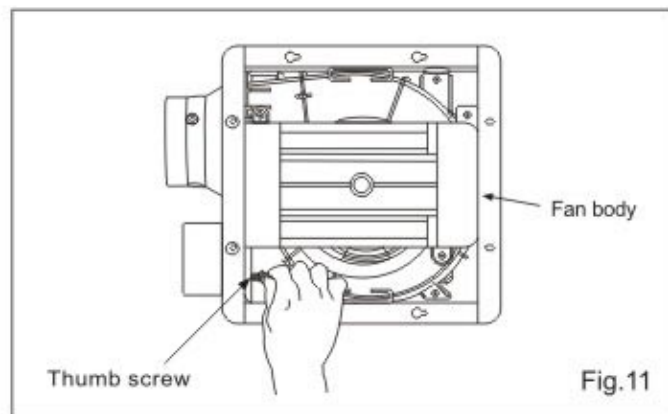

Fig.11
1. Before installation, secure fan body to adaptor by thumb screws (Fig.11). Fix the lighting unit to fan body (refering to Fig.9 of page 8).
1. Before installation, secure fan body to adaptor by thumb screws (Fig.11 of page 9). Fix the lighting unit to fan body (referring to Fig.9 of page 8).